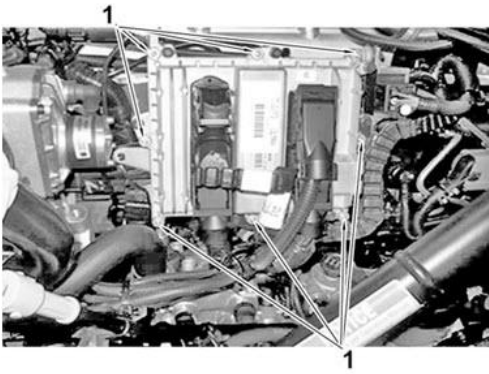

**Figure 4 - ECM Bolts**
7. Remove 8 bolts that secure the ECM to the bracket (Figure 4, Item 1).